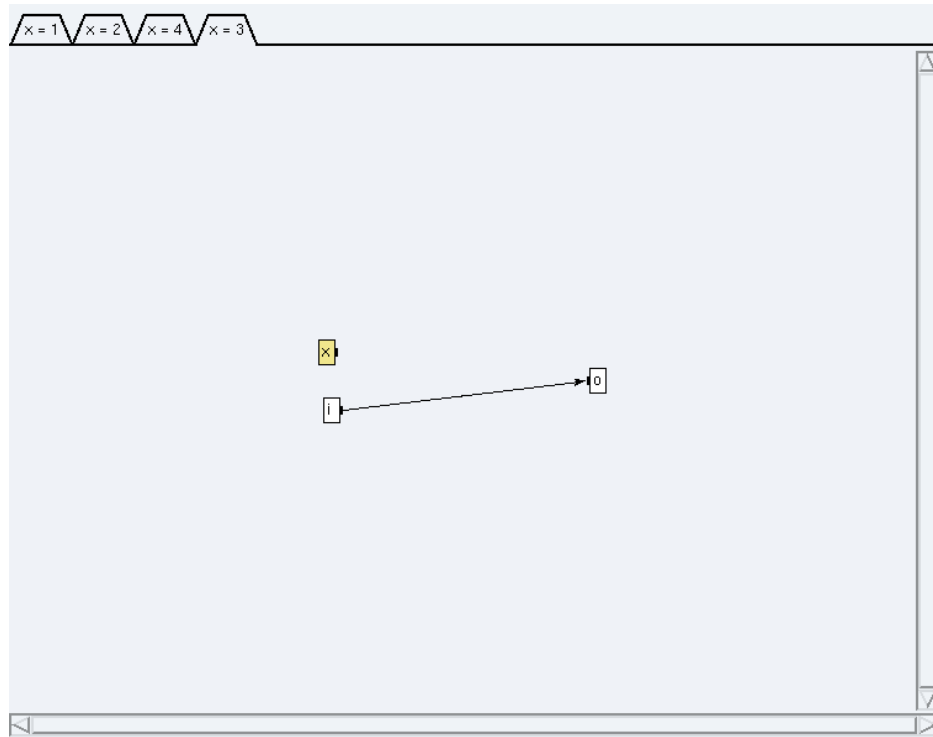

Figure 5.4: Condition x=3
- \* click on the condition **x=3** (*cf.* figure 5.4) and connect the port `i` to the port `o`,